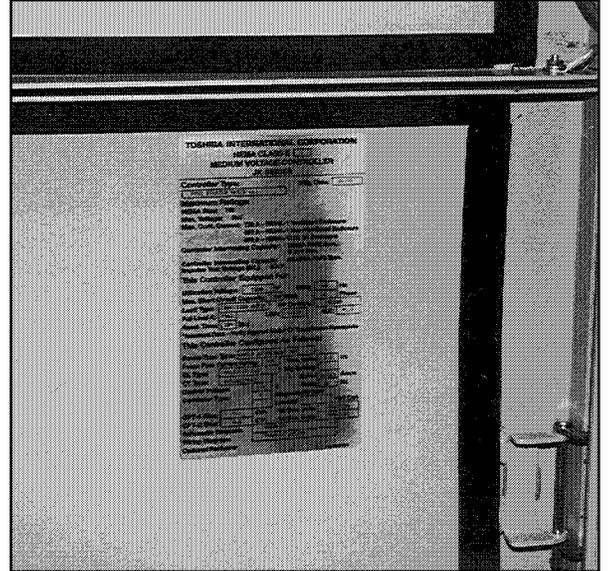

Fig. 40 Data Label on Controller
- There is a rating data label (Fig. 40) on the inside of each medium voltage compartment door. Verify that the controller ratings properly match the system data by checking the following: